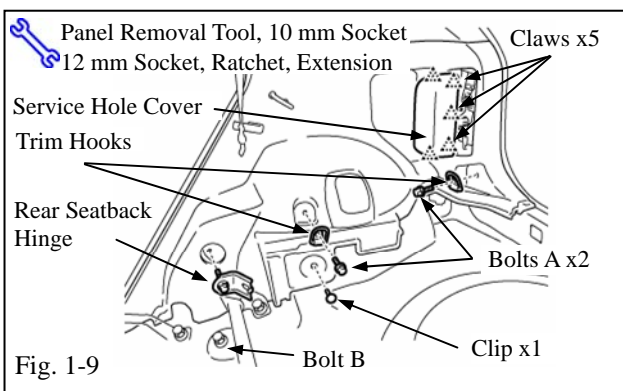

Fig. 1-9
- (g) Remove the passenger side deck trim side panel as follows (Fig. 1-9):
- (1) Remove the service hole cover.
- (2) Remove two (2) bolts A to detach the luggage compartment trim hooks.
- (3) Remove the clip.
- (4) Remove the bolt B and rear seatback hinge.
- (5) Disengage the clips and claws, then remove the deck trim side panel.